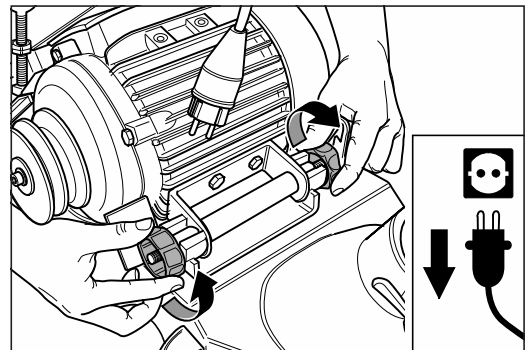

Fig. 28 Loosen the two motor nuts ...
- 5 Loosen the two motor nuts at the motor bearing bracket (fig. 28).